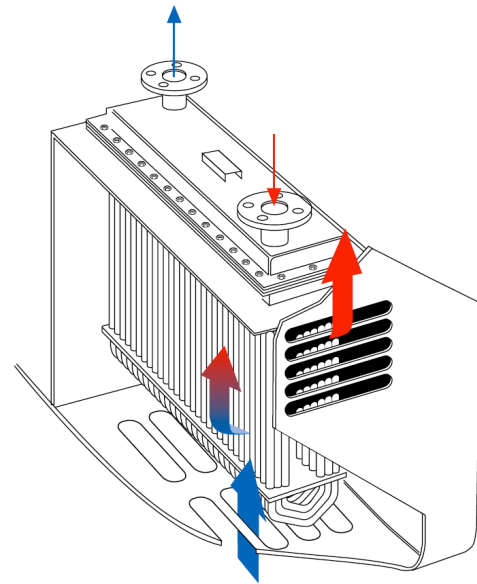

Figure 3a. Transverse mounting.
1. **Transversely (athwartships):** this is the most common way to mount a box cooler. The box cooler is mounted between the existing frames of the vessel (see fig. 3a).